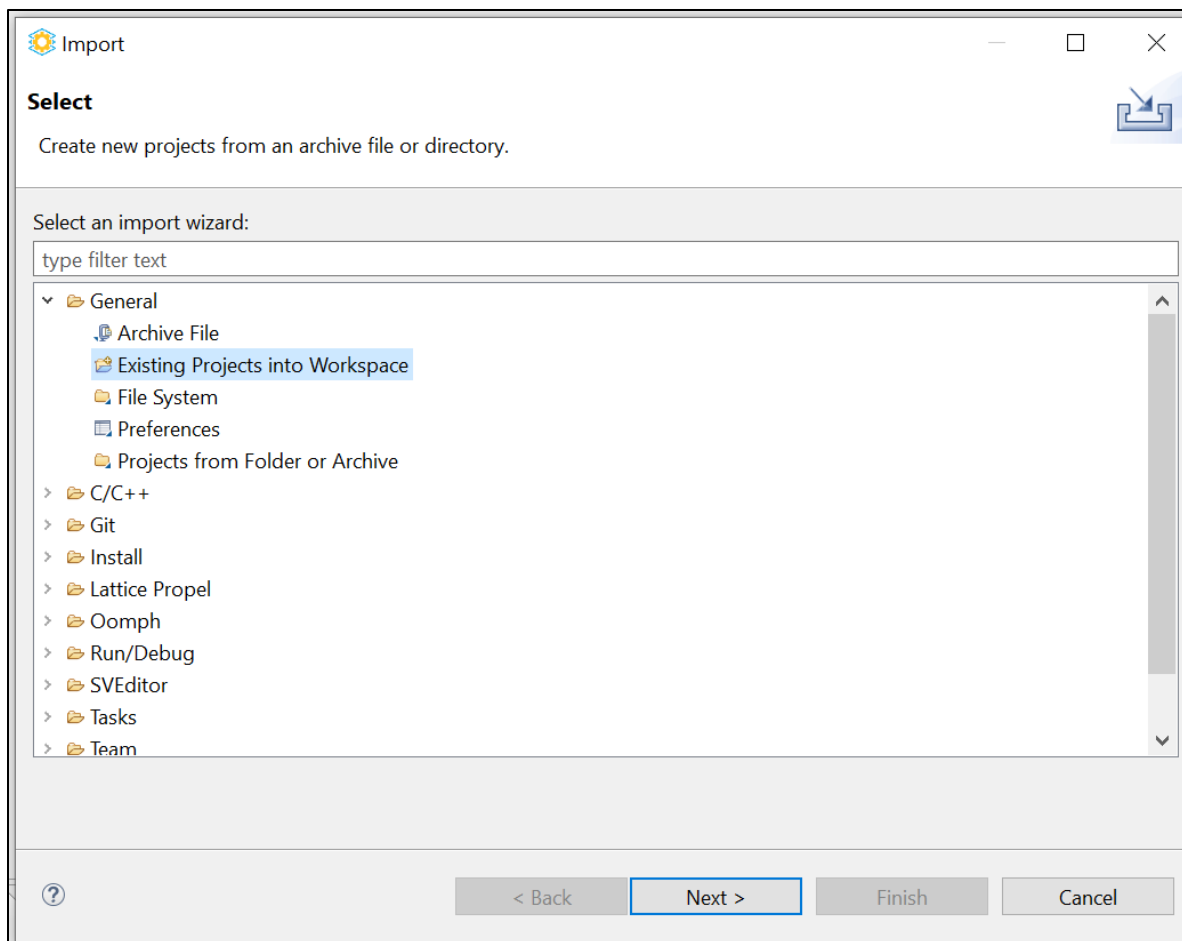

Figure 3.6. Select Page
6. The **Import** wizard opens, as shown in Figure 3.6.